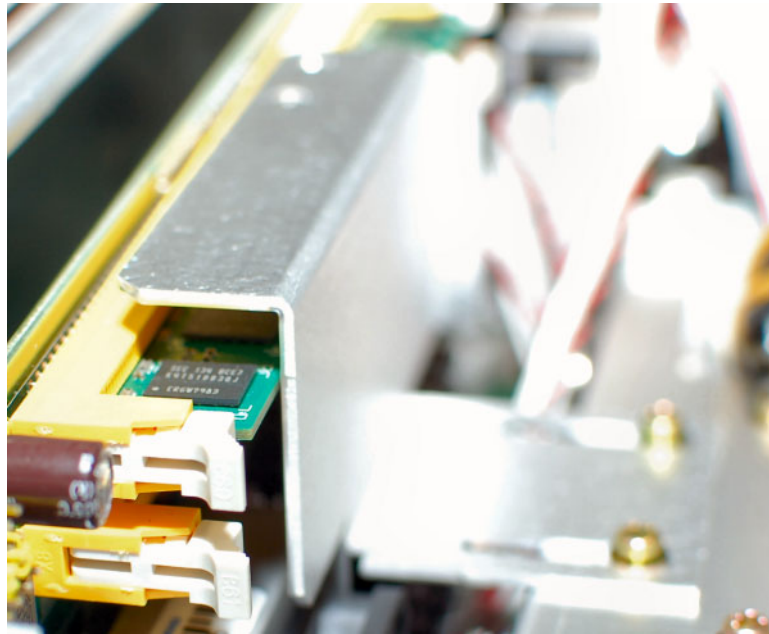

Figure 4: Ensure bracket presses against the SIMMs before tightening the securing screws
- b. Slide the memory support bracket against the SIMM cards on the CPU assembly, then tighten the screws. (See Figure 4.)